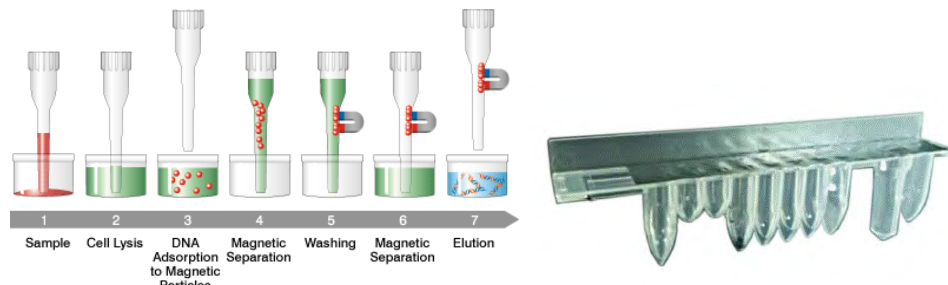

Figure 1-5: Nucleic acid extraction principle and ELITE InGenius SP 200 extraction cassette
- The reagent set has been optimized for the isolation of nucleic acids from 200  $\mu$ L samples (Figure 1-5: ELITE InGenius – SP200 Extraction cassette and extraction principle).